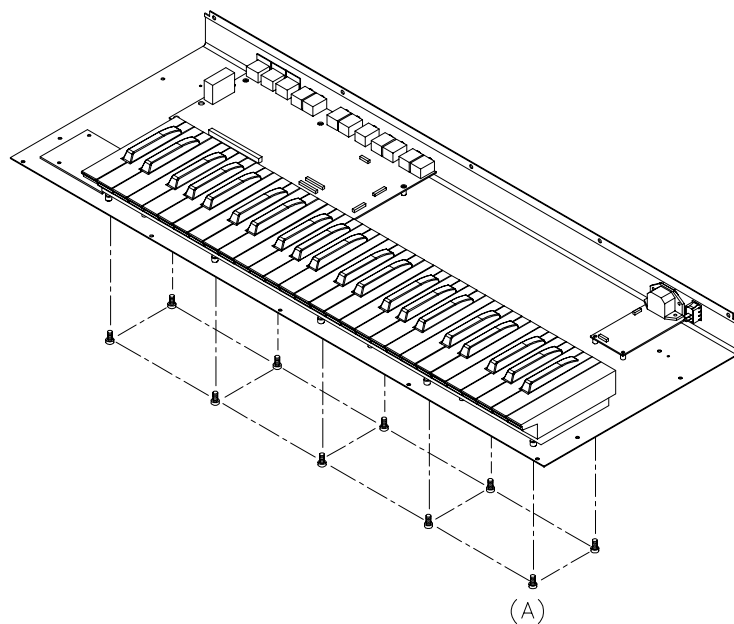

Fig.2
2. REMOVAL OF KEYBOARD (Fig.2)
- (A) TAKE OUT THE 10PCS SCREWS FROM WHICH THE BOTTOM CHASSIS.